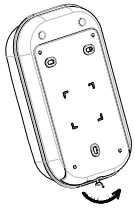

FIGURE 1
1. Undo and remove the fixing screws from the bottom edge of the Indoor Siren and remove the rear cover (FIGURE 1 & 2).